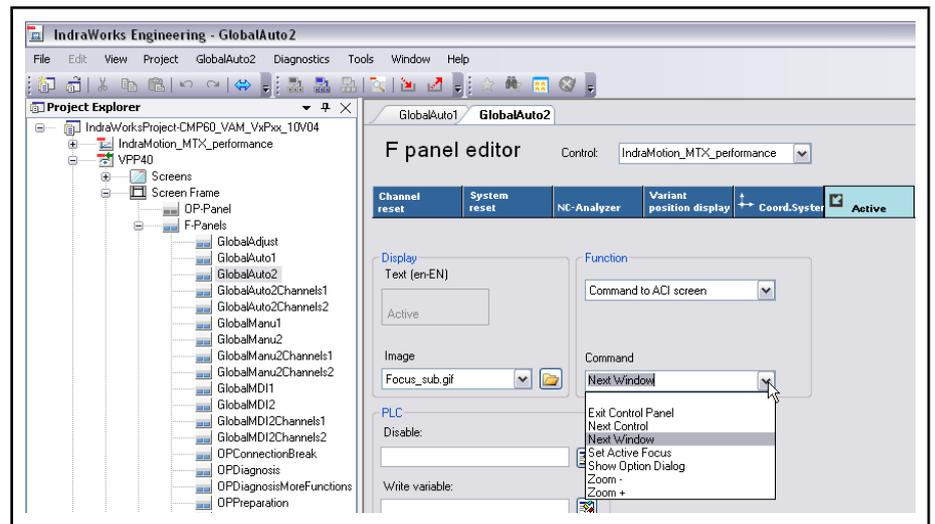

Fig.7-34: F-panel editor: Assign ACI functions to F-keys
**Description** In the F-panel editor (fig. 7-34 "F-panel editor: Assign ACI functions to F-keys" on page 155), the functions "Command to ACI screen" and "Command to ACI control" can be used to assign ACI functionalities to F-keys.